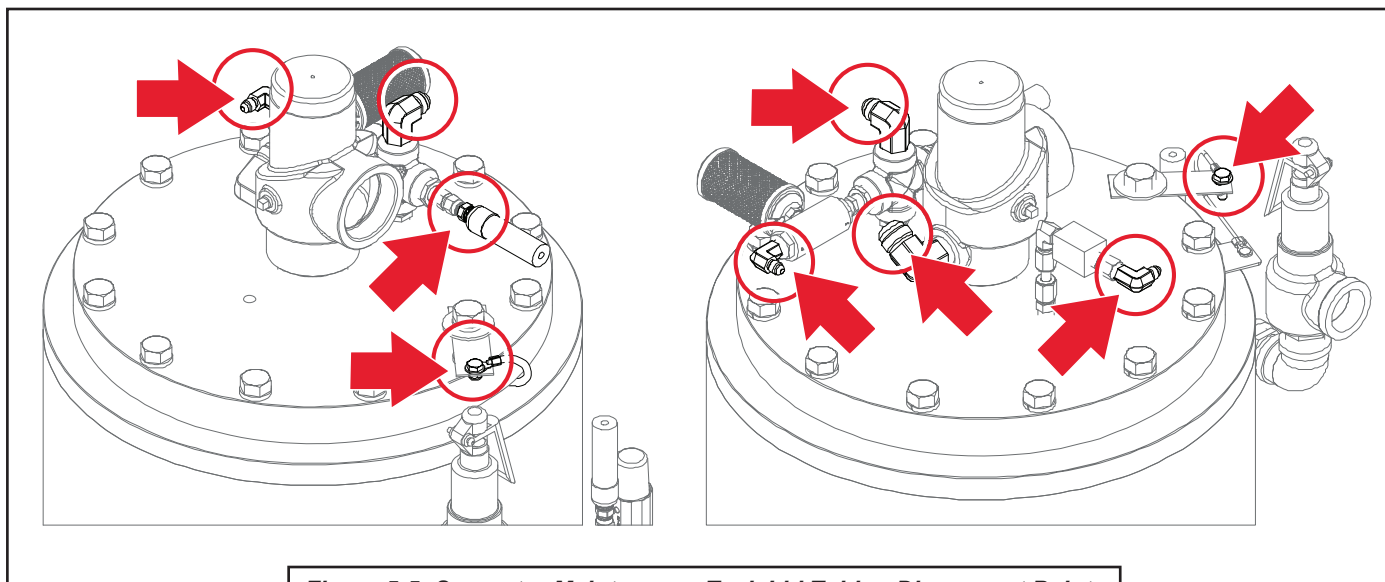

Figure 5-5: Separator Maintenance Tank Lid Tubing Disconnect Points
Refer to **Figures 5-5** and **5-6**, and the following procedure. Consult **Table 5A** for routine change intervals. Follow the procedure below for separator element replacement.
1. Disconnect the tubing to all assemblies located on receiver tank lid, as shown in **Figure 5-5**.
11. Set the twelve (12) bolts into position finger-tight, then gradually tighten in a crisscross pattern in four to five steps. Place the copper grounding bar under the head of one of the capscrews closest to the ground tab of the separator. Always tighten the bolts alternately at opposite sides of the cover—never tighten bolts adjacent to each other. Torque the bolts to 100 to 200 ft.-lbs (140 to 163 Nm).
13. Clean the fluid return line strainer and clear the orifice (**Figure 5-5**).